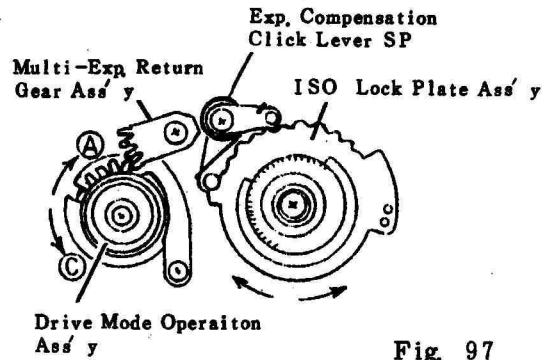

Fig. 97
- c) The Exp. Compensation Click Lever Spring shall not be in contact with the Multi-Exp. Return Gear Ass'y. (See Fig 97)
- b) When the Drive Mode Operation Ass'y is turned from the "single" to the "multi-exp." position (in the direction of A in Fig. 97), it shall lock without fail. When the Multi-Exp. Lock Lever Ass'y is turned in the direction of B in Fig. 99, the Drive Mode Operation Plate Ass'y shall restore to the "single" position and stop without fail.
- And when the Drive Mode Operation Plate Ass'y is turned from the "multi-exp." position in the direction of C in Fig. 97, it shall unlock after a slight click sound and restore to the "single" position.